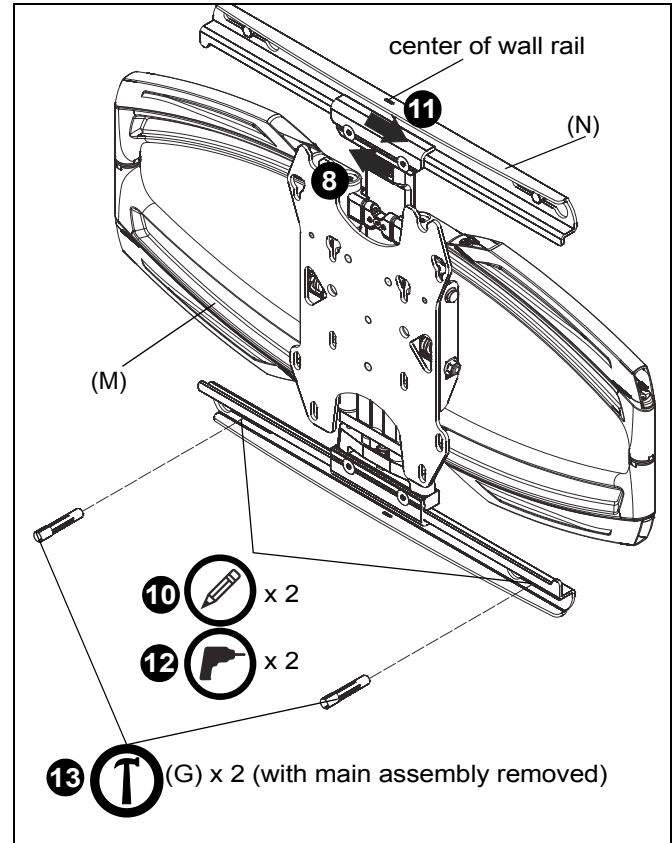

Figure 8
8. Slide main assembly (M) onto wall rail (N). (See Figure 8)
9. Center main assembly (M) over wall rail (N). (See Figure 8)
10. Mark two holes at lower mounting holes. (See Figure 8)
11. Slide main assembly (M) off wall rail (N). (See Figure 8)
12. Drill two 3/8" holes at marked locations. (See Figure 8)
13. Install two concrete anchors (G) into drilled holes. (See Figure 8)